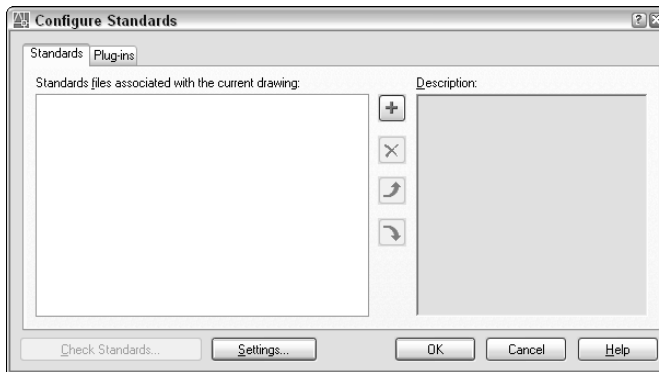

**Figure 26-10:** Use the Configure Standards dialog box to associate a standards file with a drawing.
2. On the Standards tab of the Configure Standards dialog box, shown in Figure 26-10, click the + button.